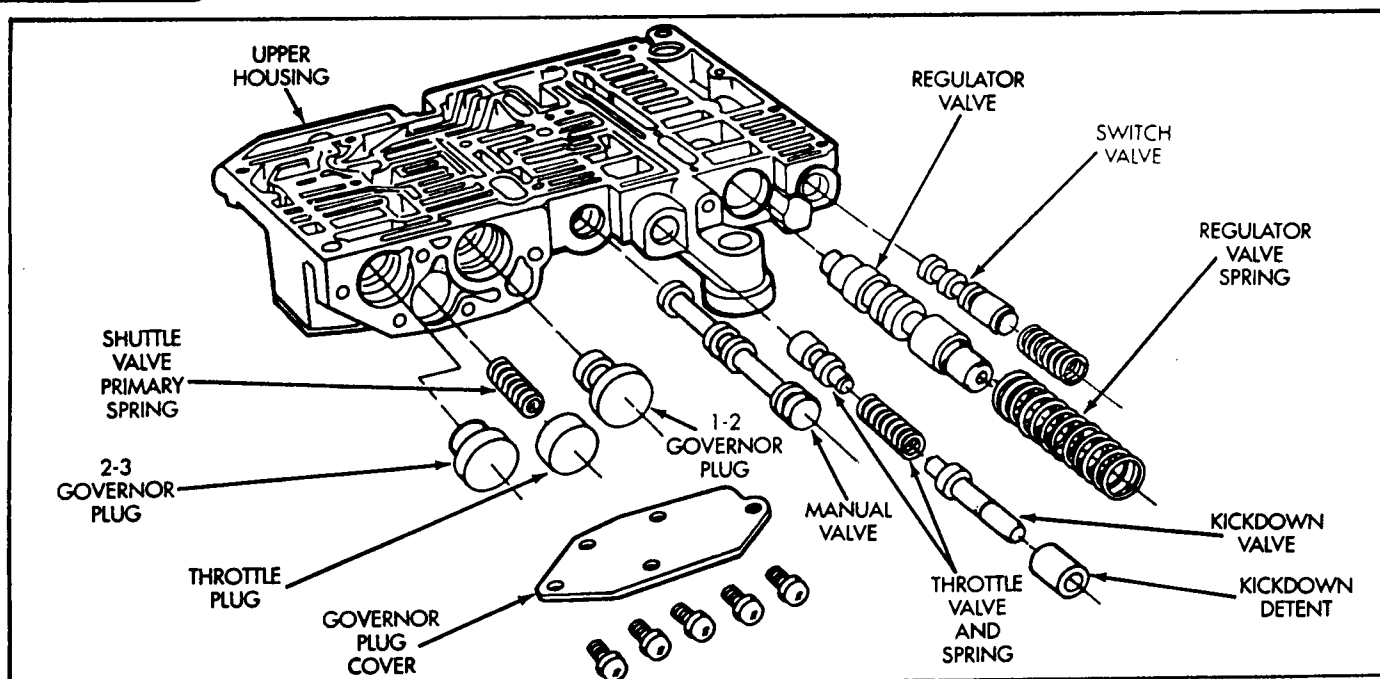

Figure 91
18. Install the 1-2 governor plug into the upper housing (See Figure 91).
19. Install the 2-3 governor plug into the upper housing (See Figure 91).
21. Install governor plug cover plate and five screws as shown in Figure 91.
31. Install the manual valve into the bore in the upper housing (See Figure 91).
32. Install the throttle valve and spring, kickdown valve, and kickdown detent as shown in Figure 91.
33. Install the pressure regulator valve in the bore in upper housing as shown in Figure 91.
34. Install the switch valve into the bore in the upper housing (See Figure 91).